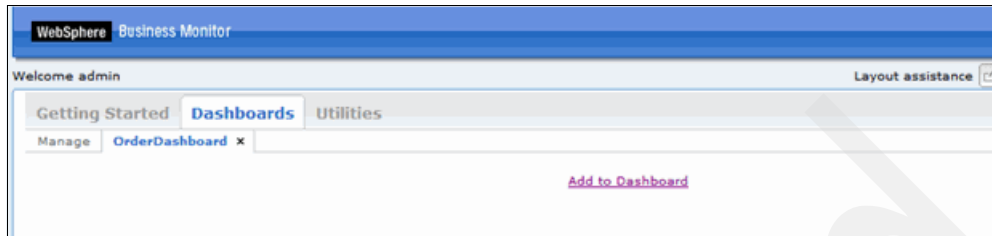

Figure 6-67 Dragging KPI to the dashboard
5. In the OrderDashboard view (Figure 6-67), select the **KPI** icon from the palette on the right and drag it to the dashboard panel.